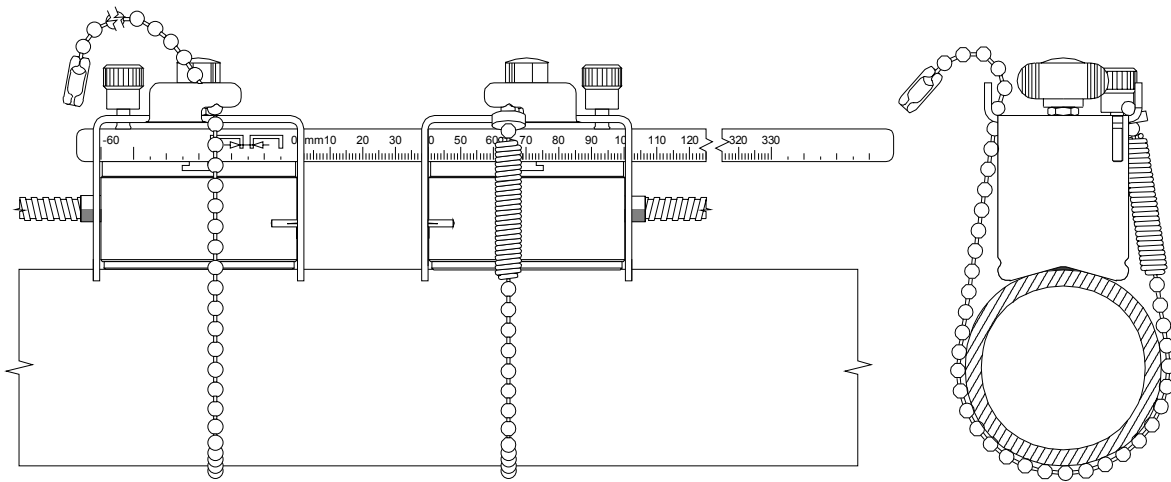

Fig. 6.7: Transducers mounted with runners and chains
- Insert the ruler in the lateral slots of the runners (see Fig. 6.7). Adjust the transducer distance to the distance suggested by EESIFLO and fix the transducers with the small plastic screws on the transducer cable side of the runner.